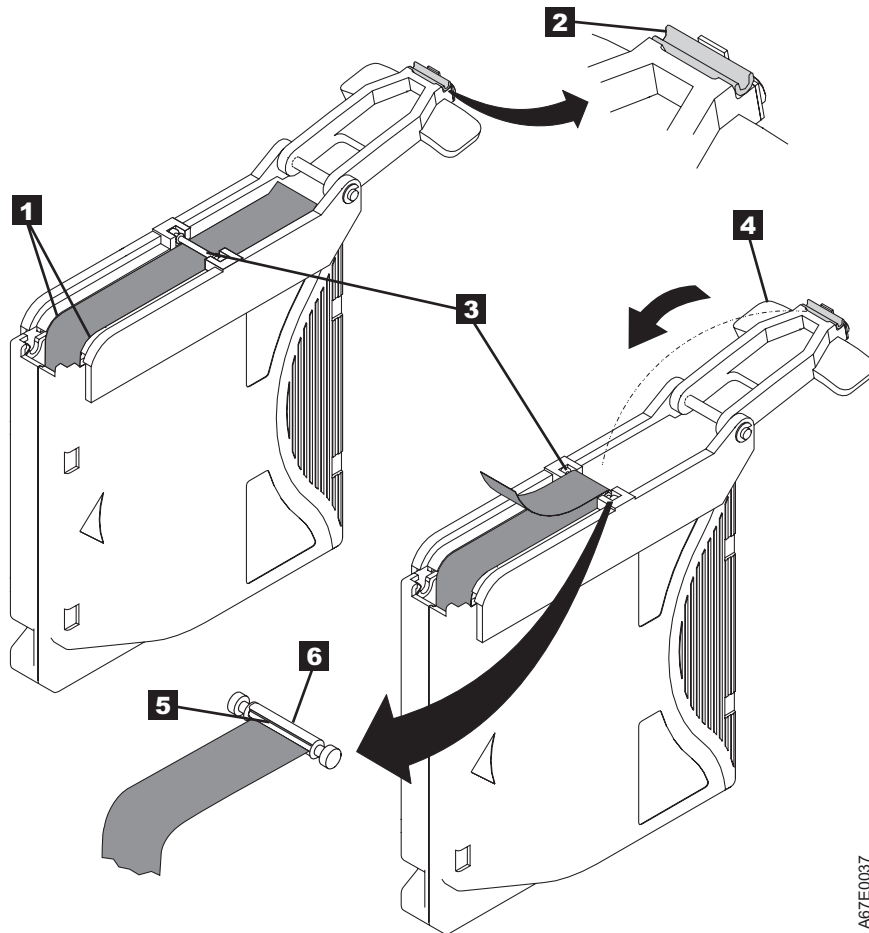

Figure 9-15. Attaching the leader pin to the tape
7. Position the tape in the alignment groove of the leader pin attach tool (1 in Figure 9-15 on page 9-16).
8. Place a new C-clip into the retention groove (2 in Figure 9-15 on page 9-16) on the leader pin attachment tool and make sure that the clip's open side faces up.
9. Place the leader pin into the cavity (3 in Figure 9-15 on page 9-16) of the leader pin attach tool.
10. Fold the tape over the leader pin and hold it with your fingers (see Figure 9-15 on page 9-16).
11. Close the pivot arm (**4** in Figure 9-15) of the leader pin attach tool by swinging it over the leader pin so that the C-clip snaps onto the pin and the tape.
12. Swing the pivot arm open and trim the excess tape (**5** in Figure 9-15) so that it is flush with the reattached leader pin (**6** in Figure 9-15).
13. Use your fingers to remove the leader pin from the cavity (**3** in Figure 9-15) in the leader pin attach tool.